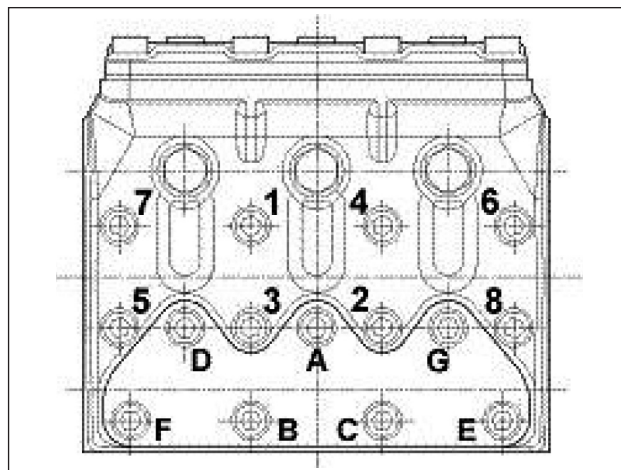

Fig. 25
- ** The head fixing screws must be tightened with a torque wrench, lubricating the underhead, respecting the order in Fig. 25.
- *** The valve cover fixing screws must be tightened with a torque wrench, lubricating the underhead, respecting the order in Fig. 25.